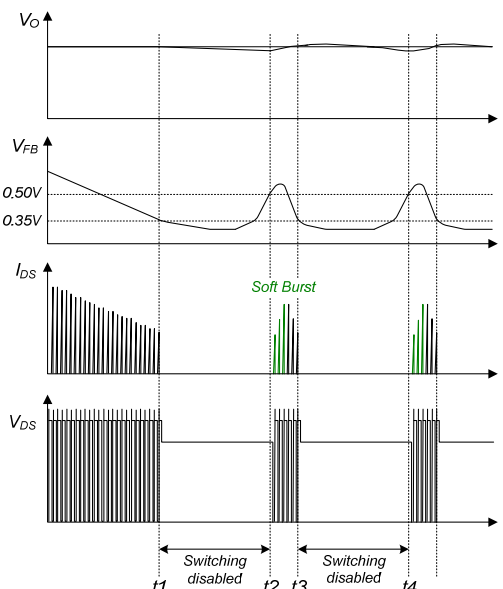

Figure 23. Burst Mode Operation
5. Soft Burst-Mode Operation: To minimize power dissipation in Standby Mode, the FSD146MRBN enters Burst-Mode operation. As the load decreases, the feedback voltage decreases. As shown in Figure 23, the device automatically enters Burst Mode when the feedback voltage drops below V_{BURL} (350mV). At this point, switching stops and the output voltages start to drop at a rate dependent on the standby current load. This causes the feedback voltage to rise. Once it passes V_{BURH} (500mV), switching resumes. The feedback voltage then falls and the process repeats. Burst Mode alternately enables and disables switching of the SenseFET, thereby reducing switching loss in Standby Mode.